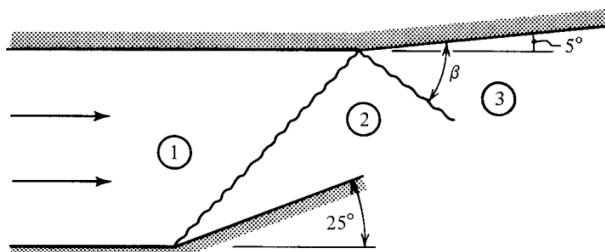

Figure P7.17
- 7.17** A uniform flow of air has a Mach number of 3.3. The bottom of the duct is bent upward at a  $25^\circ$  angle. At the point where the shock intersects the upper wall, the boundary is bent  $5^\circ$  upward as shown in Figure P7.17. Assume that the flow is supersonic throughout the system. Compute  $M_3$ ,  $p_3/p_1$ ,  $T_3/T_1$ , and  $\beta$ .